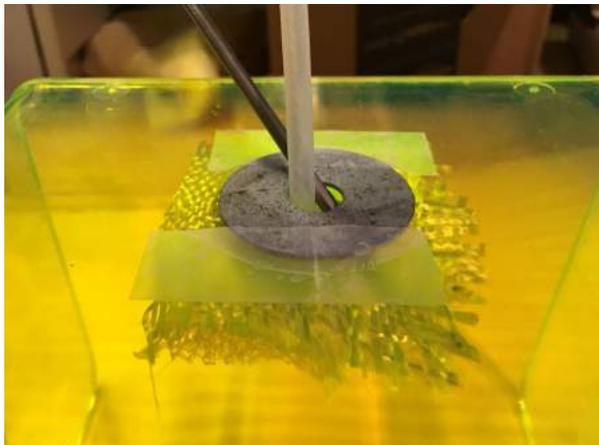

Fig 6
- A resin-rich layup of three layers of 7.5 oz cloth is perhaps 0.045" thick; a four layer layup is perhaps 0.06" thick (1/16" is 0.0625"). This is not a very thick reinforcement, but the deck layup of a Sunfish is only about 1/8" (0.125") thick. A resin-based filler can be added before the reinforcement is drawn up (as suggested in Fig 6) and the depth of the hole above the reinforcement will likely be filled with gelcoat and/or some resin and filler concoction.